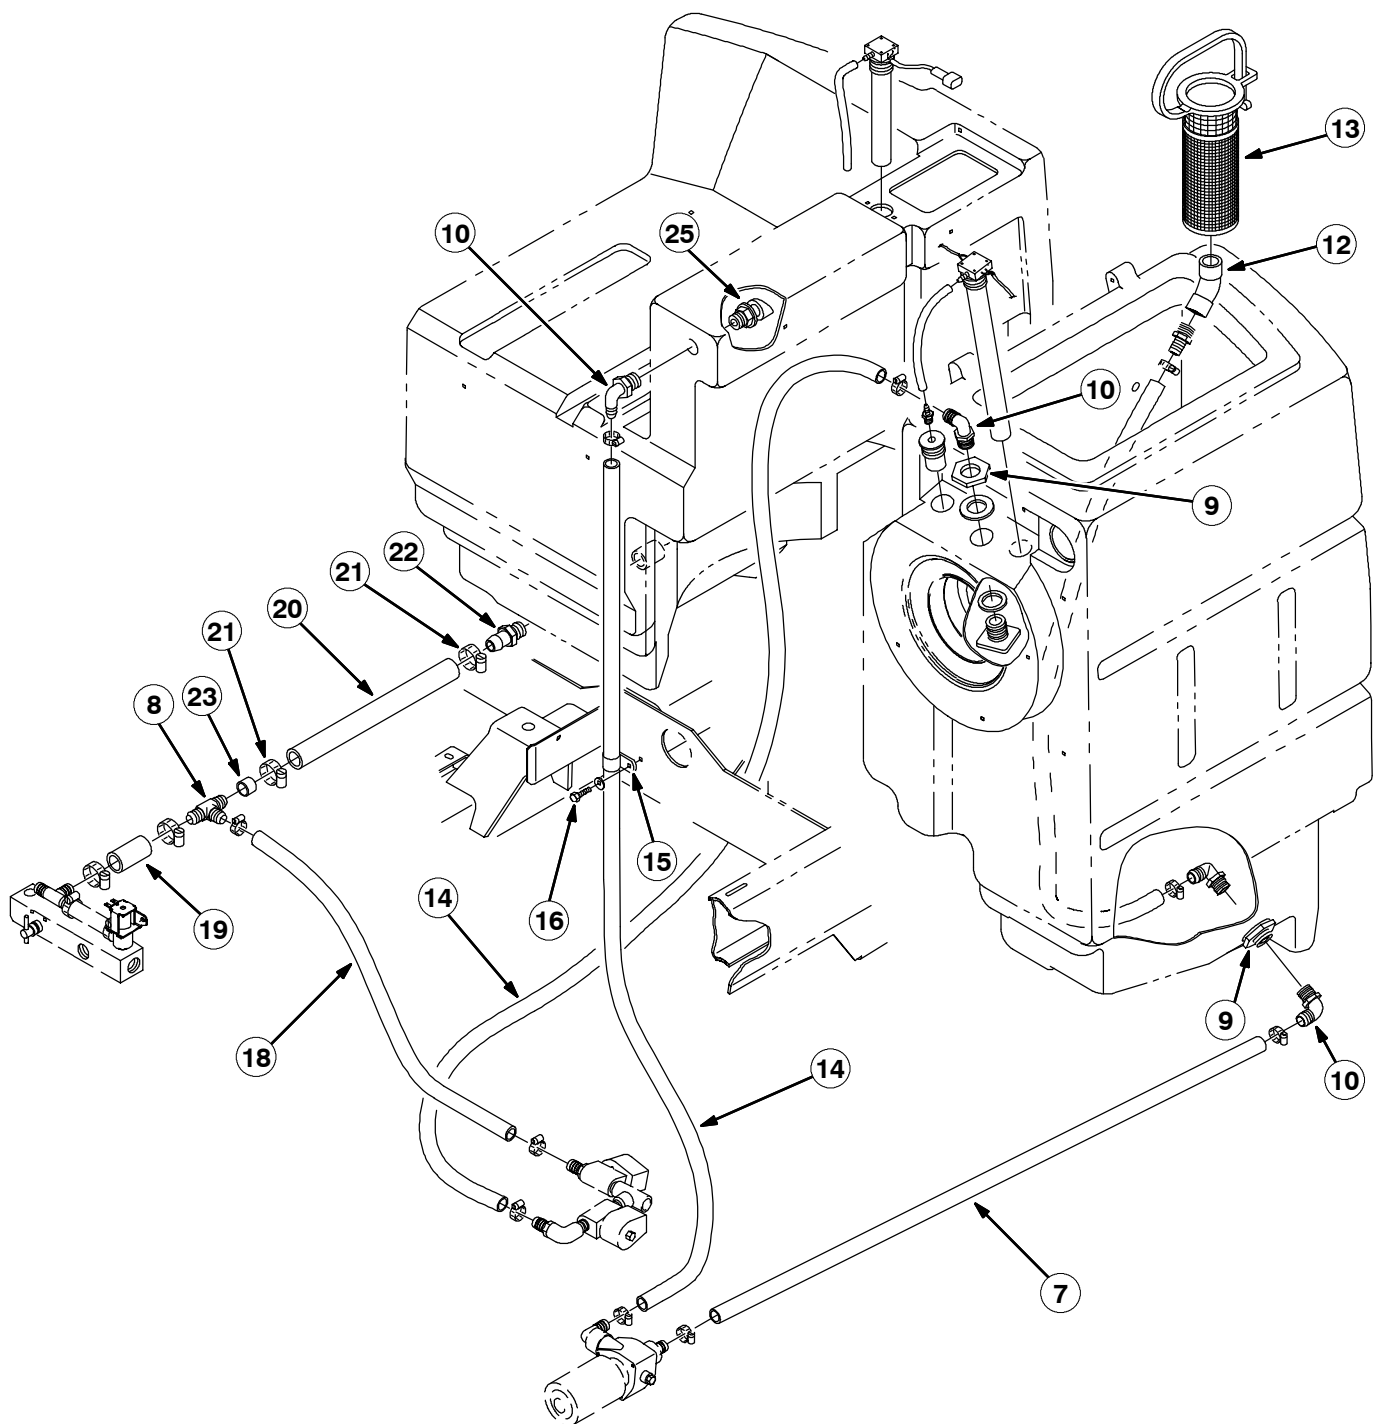

FIG. 2 - NEW ES™ TANKS GROUP (xxxxx-)
(Refer to FIG. 2)
4. Install the bulkhead fitting (9) and elbow (10) to the recovery tank. (Refer to FIG. 2)
5. Install the check valve (25) in the recovery tank. Stop tightening when the flat edge of the valve is level at the top of the machine, to position the check valve correctly in the tank. (Refer to FIG. 2)
6. Connect the hoses (14, 20) and tee fitting (8) to the manifold block with hose clamps (21). (Refer to FIG. 2)
15. Connect the recovery tank hose (7) to the valve w/elbow fitting. (Refer to FIG. 2)